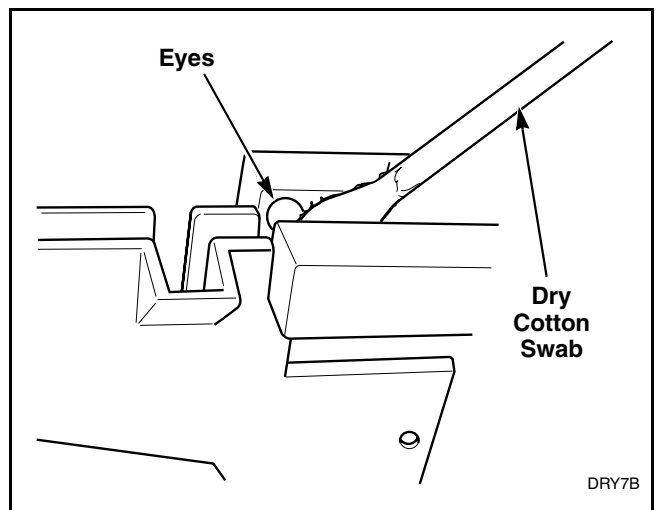

Figure 6
10. Check the coin drop sensor for dust or dirt on the eyes. Wipe the eyes with a dry cotton swab. Refer to *Figure 6*. **IMPORTANT:** Do not use isopropyl alcohol to clean the electronic sensor or eyes.